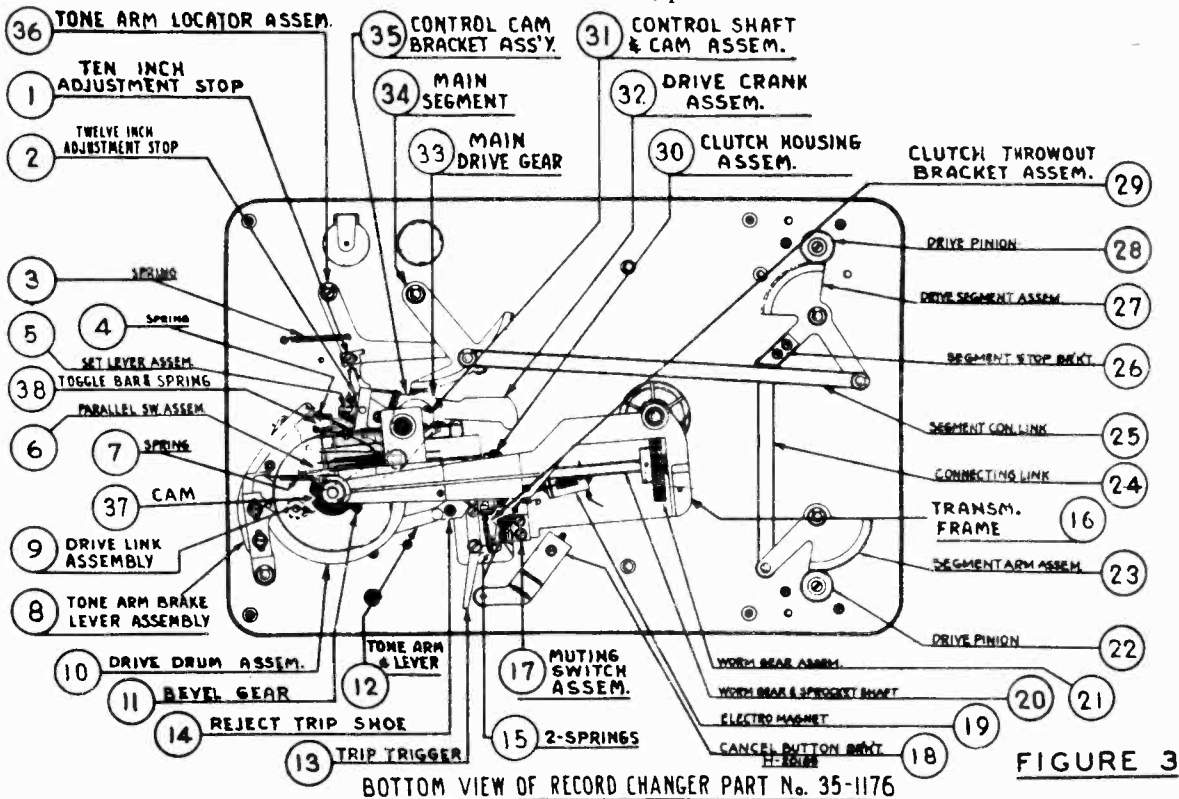

FIGURE 3
3. Also check the electric magnet (19) Fig. 3 and associated wiring for open circuits.
4. Check the small metal rod connecting the trip trigger (13) Fig. 3 and lever of electric magnet.
1. See that the screw (10) Fig. 1 which clamps the tone arm swivel bracket is tight. Make sure that the set screws holding the tone arm lever (12) Fig. 3 to the tone arm shaft are tight.
Records with an oscillating reject groove are rejected by the trip dog located on the end of the tone arm lever (12) Fig. 3 engaging the saw teeth of the trip trigger (13) Fig. 3. When the mechanism will not reject an oscillating groove record, either the screws mentioned in paragraph 1 are loose or the trip dog trip trigger (13) Fig. 3 or springs (15) Fig. 3 are at fault. When it is found that these parts have become worn or weak, they should be replaced.
Records with spiral reject grooves are rejected by the trip shoe (14) Fig. 3 located on the end of the tone arm lever (12) Fig. 3. This trip shoe (14) Fig. 3 hits the pin on the trip trigger (13) Fig. 3 releasing the clutch throwout bracket (29) Fig. 3. This should occur when the pick-up needle has traveled to within a distance of $1\frac{1}{8}$ " from the center of the turntable spindle. Adjust the mechanism to properly reject this type of record as follows: If the pick-up does not reject the mechanism after traveling to within $1\frac{1}{8}$ " from the center of the turntable spindle (or $1\frac{3}{8}$ " from the edge of spindle), loosen the knurled nut holding trip shoe (14) Fig. 3 to the tone arm lever (12) Fig. 3. Move trip shoe toward or away from the pin on the trip trigger (13) Fig. 3 until the trip shoe operates the mechanism properly. When this point is found, the knurled nut should be well tightened.